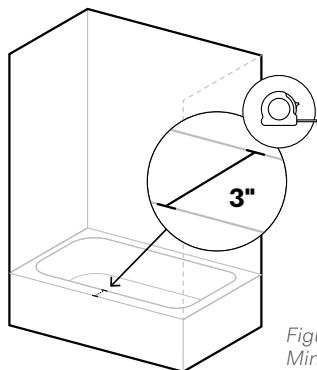

Figure 1.2 Polaris Double Slider Minimum Threshold Width
- Verify Threshold Width** - If your shower installation features a raised threshold, the completed threshold must be a minimum width of **3"** or this model will not fit your space. (Fig. 1.2)